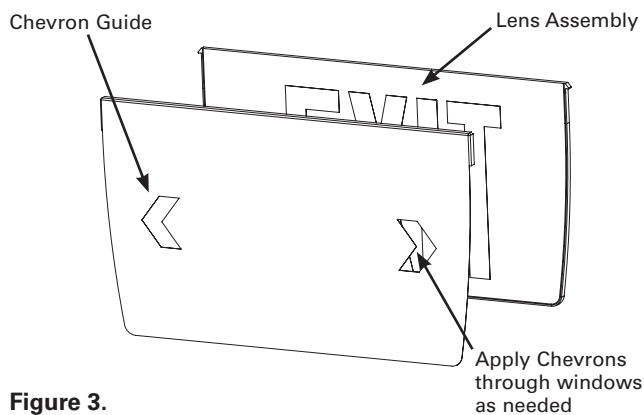

Figure 3.
5. If chevrons are desired, lay the cardboard chevron guide on the lens, aligning the folds along the top and sides of the lens. (See Figure 3) Otherwise, proceed to step 9.